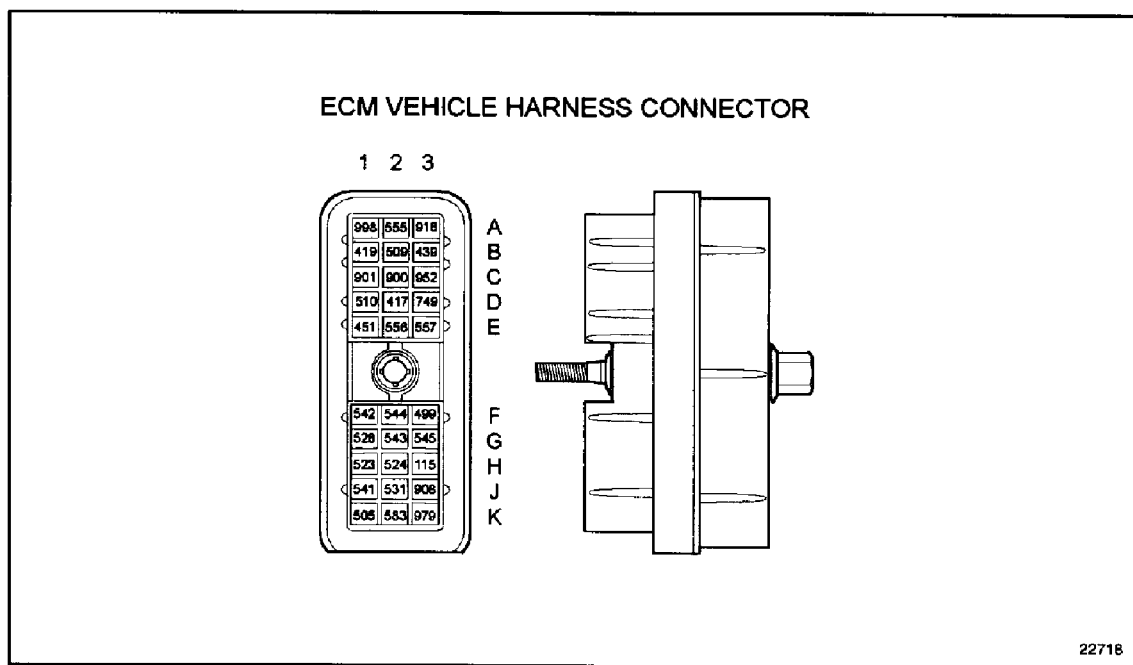

Figure 11-5 Electronic Control Module Vehicle Harness Connector
1. Check terminals at the ECM vehicle harness connector (both the ECM and harness side) for bent, corroded, and unseated pins or sockets. See Figure 11-5.